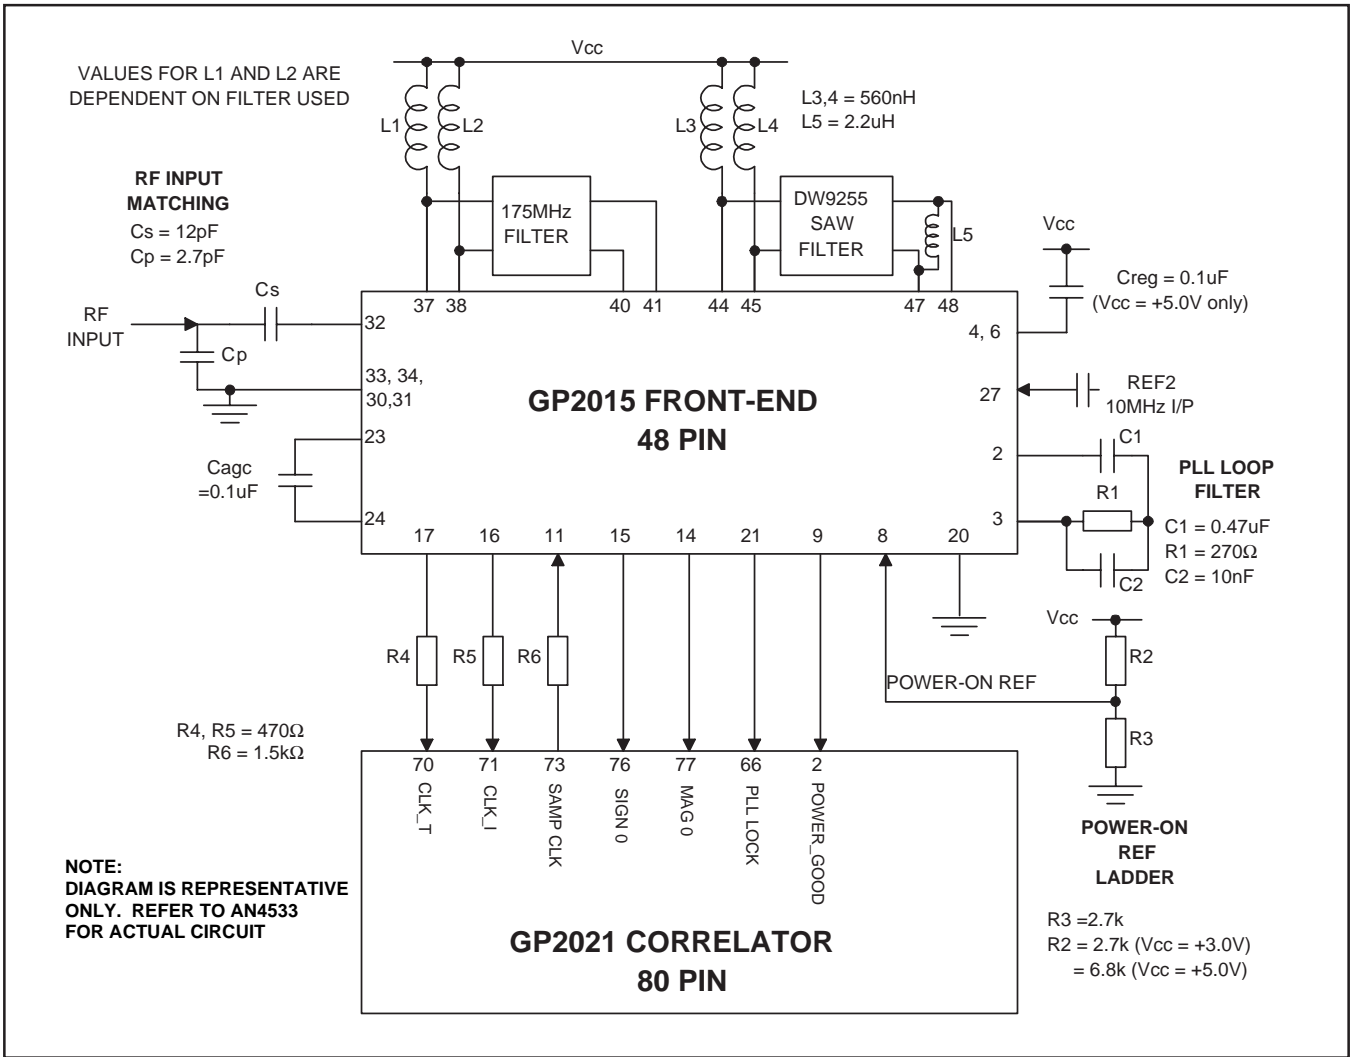

Fig. 4 GP2015 typical application
A typical application circuit is shown in figure 4 with the GP2015 front-end interfaced to the GP2021 12-channel correlator integrated circuit. The RF input has an unmatched input impedance (see page 4). The RF input matching components C_s and C_p should be mounted as close to the RF input as possible; also the Vee(RF) tracks must be kept as short as possible. A SAW filter may be used as a 175.42MHz filter, but this can be replaced by a simpler coupled-tuned LC filter if there is no critical out-of-band jamming immunity requirement. The DC bias to mixer 1 is provided via inductors L1 and L2, which may form part of the 175.42MHz filter. The output of mixer 2 requires an external dc bias, achieved with inductors L3 and L4, which also serve to tune out the input capacitance of the DW9255 SAW filter. The output of the SAW filter is tuned with inductor L5. Capacitor (C_{agc}) determines the AGC time-constant. The PLL loop filter components are selected to give a PLL loop bandwidth of approximately 10kHz. The IF Output is normally used for test-purposes only, but is available to the user if required. Typically a low noise preamplifier (gain $> +15dB$) is used between the